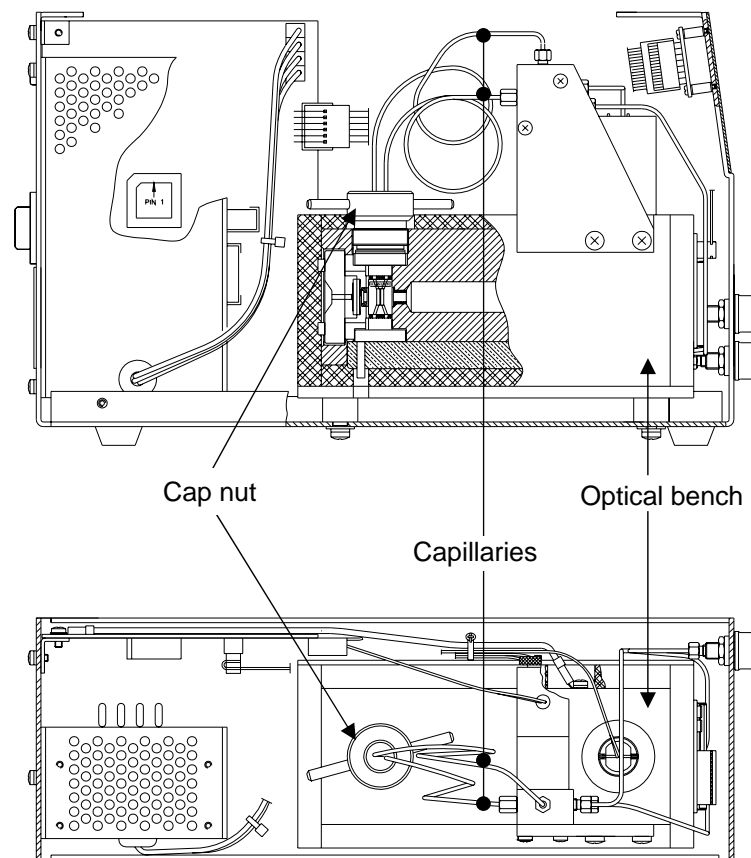
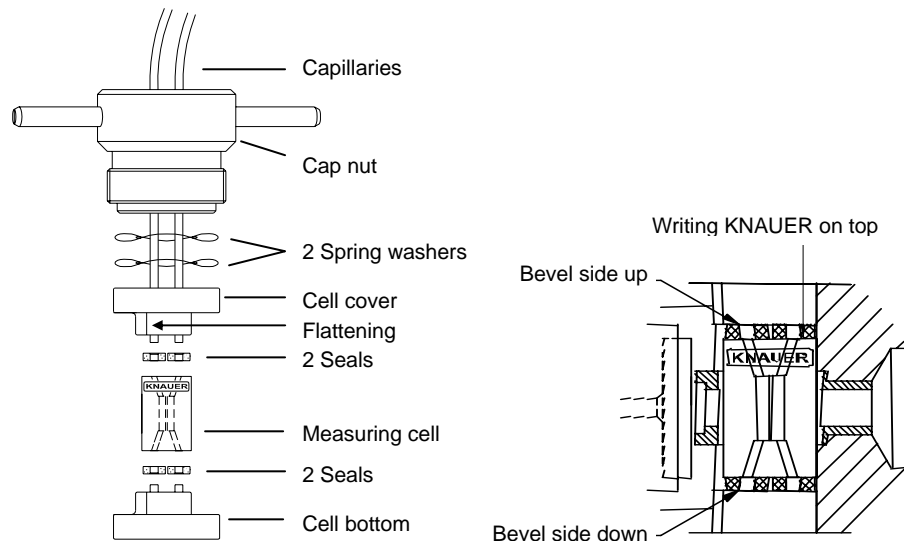

Fig. 10 Site of measurement cell in the K-2301 RI Detector
Fig. 12 Layout of 45° measurement cell (left); and orientation on the optical bench (right)
4. Locate the measurement cell inside the housing. The measurement cell is installed on the optical bench from above and is fastened as shown in Fig. 10 and Fig. 12 by means of a cap nut.
2. Insert the measurement cell, considering it's position (see Fig. 12) into the housing. The writing KNAUER has to be situated on the upper side.